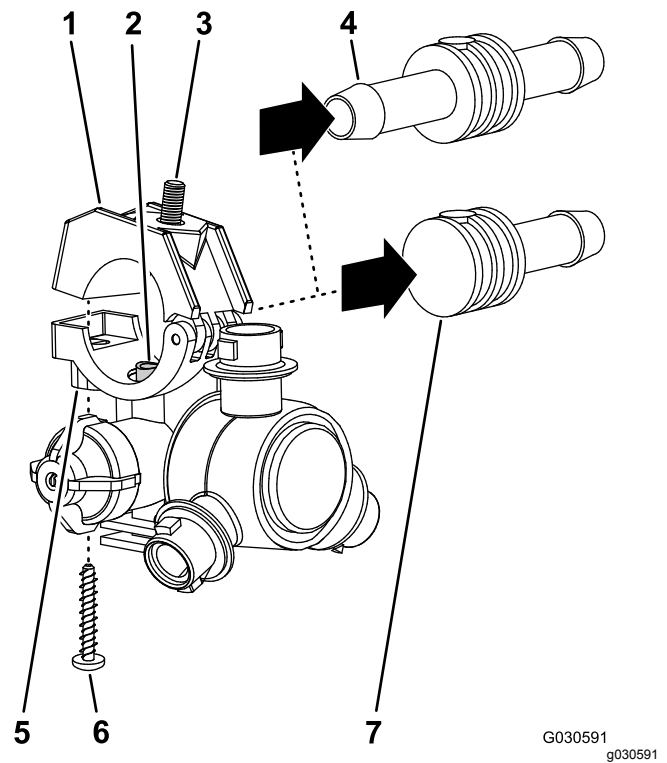

Figure 50
- Remove the stainless steel screw (#12 x 1-1/4 inches) that secures the upper clamp half and double or single barbed-hose shank (3/4 inch) to the body of the sprayer nozzle, and separate the barbed-hose shank and hose from the nozzle (Figure 50).